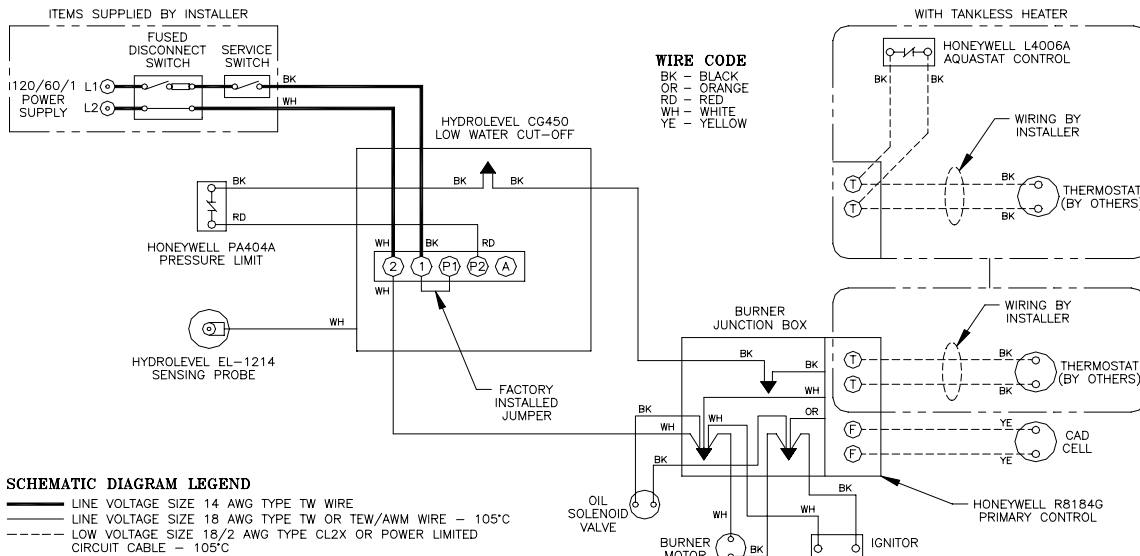

Fig. 17: Wiring Diagram for Steam Boilers with Standard Hydrolevel CG-450 Probe LWCO, Beckett AFG Burner and Controls, with or without Tankless Heater
H. INSTALL ELECTRIC WIRING in accordance with National Electrical Code and local regulations. A separate **ELECTRICAL CIRCUIT** should be run from meter with a Fused Disconnect Switch in the Circuit. Wiring should conform to Figures 17 thru 23.